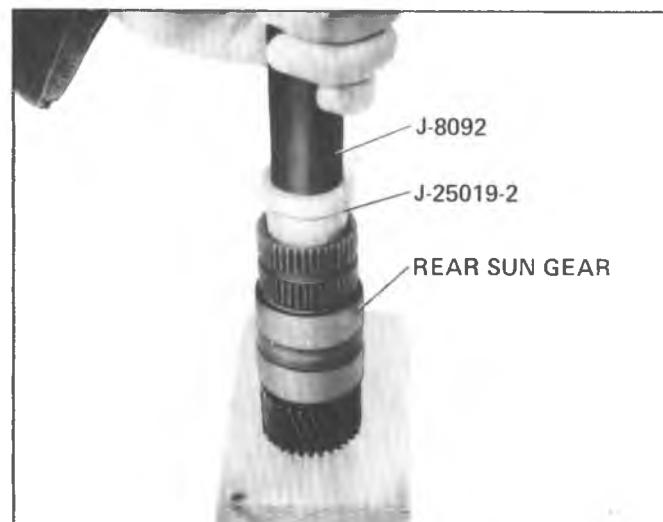

Fig. 7A-181A--Installing Rear Sun Gear Bushing
2. Using tool J-25019-9 with Driver Handle J-8092, drive or press new bushing into place until tool bottoms (Fig. 7A-179A).